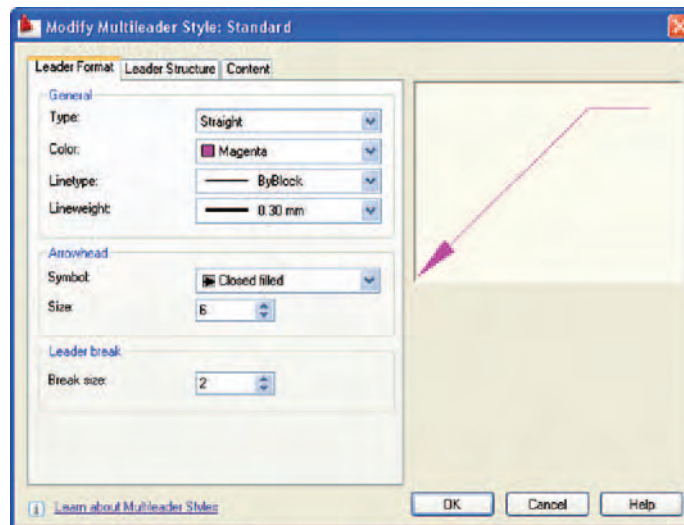

Fig. 21.6 Second example – **Modify Multileaders Style Standard** dialog
2. In the **Modify Multileaders Style Standard** dialog which appears, make entries as shown in Fig. 21.6.